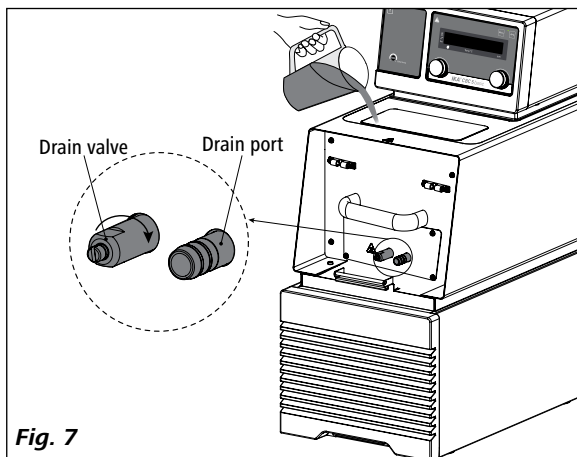

Fig. 7
- Check and make sure that the drain valve is closed (Rotate clockwise to the stop position, see Fig. 7).